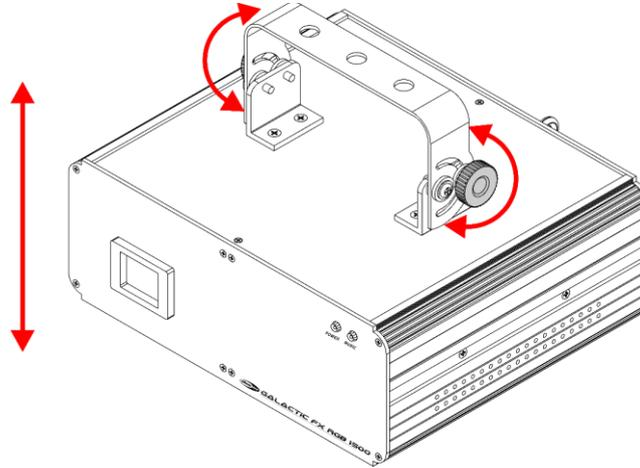

Fig. 10
- 01) Turn the **adjustment screws (02)** counterclockwise to release them.
- 02) Tilt the device at the desired angle (see Fig. 10).
- 03) Turn the **adjustment screws (02)** clockwise to tighten them. Make sure that the device cannot move freely after the **adjustment screws (02)** are tightened.